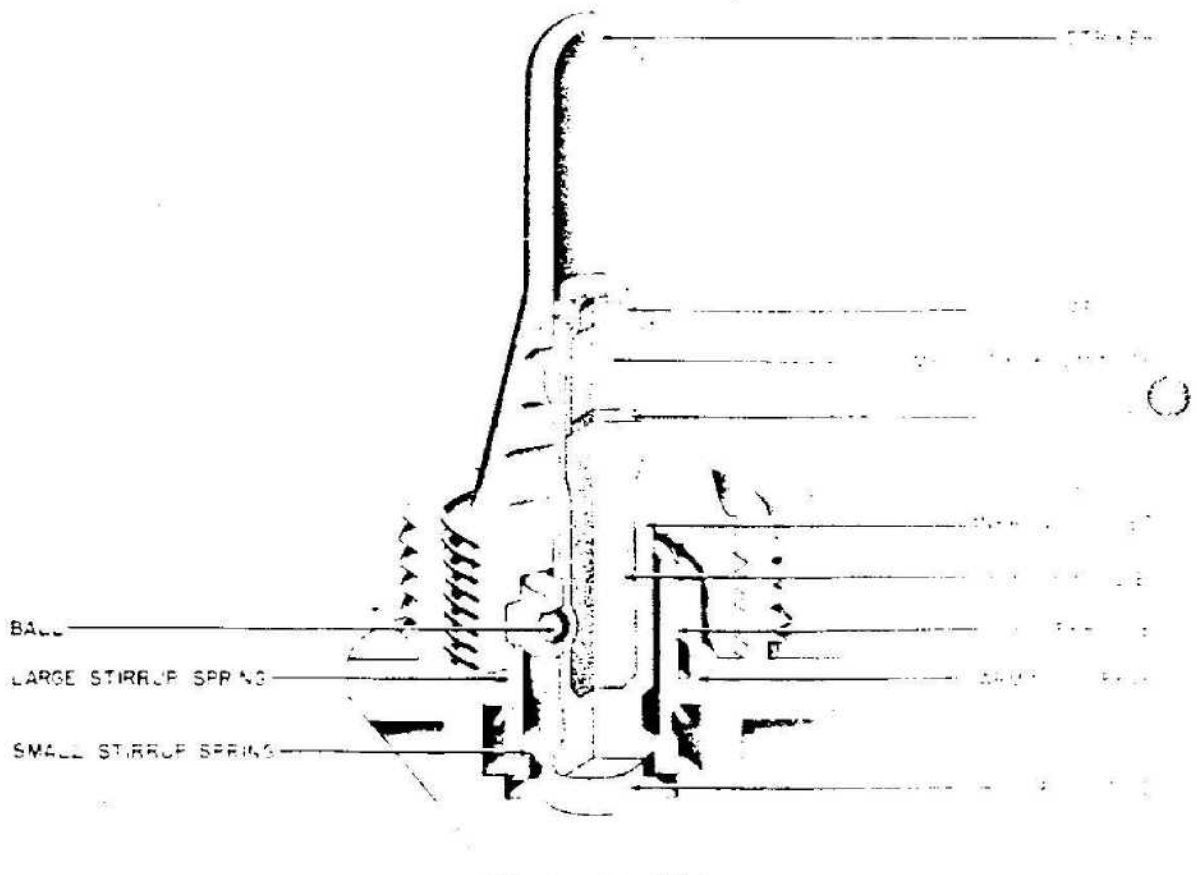

Figure 604—27/34 W. Z. 36
**EMPLOYMENT:** This base fuze is of the graze type and used in German 3.7-cm A. P. Shell of Polish origin. (See fig. 604.)